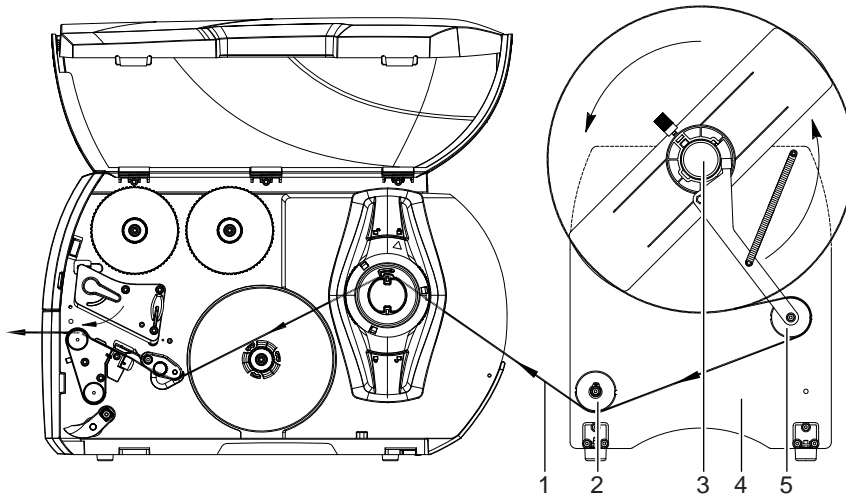
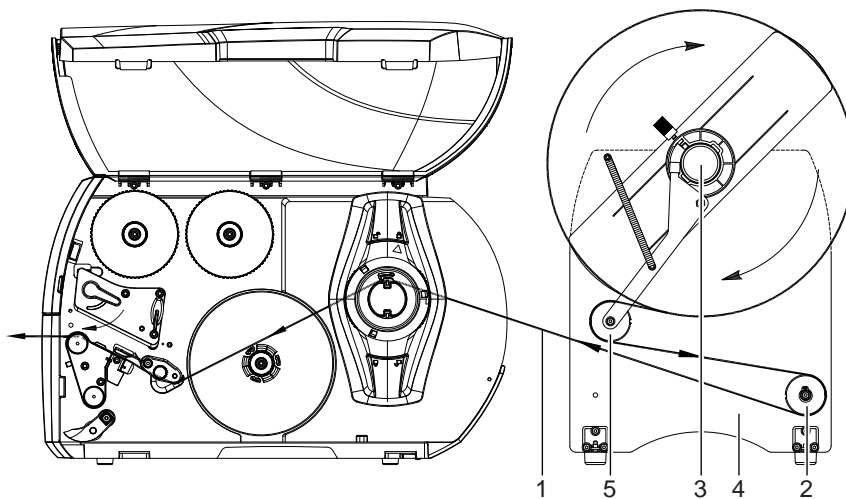

Figure 5 Unwinding from a roll with outside wound labels
Figure 6 Unwinding from a roll with inside wound labels
- Position the rack (4) of the External Rewinder as shown in Figure 5 or Figure 6.